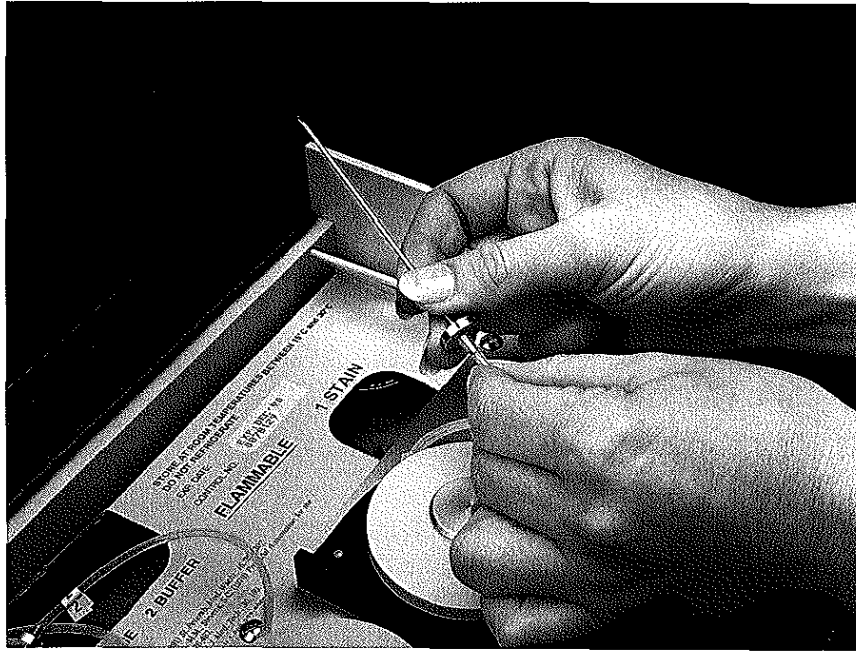

Figure 8-5
4. Disconnect each pump tube from its cannula (Figure 8-5) and from the recessed nipple located in the wall in front of the pumps (Figure 8-6).